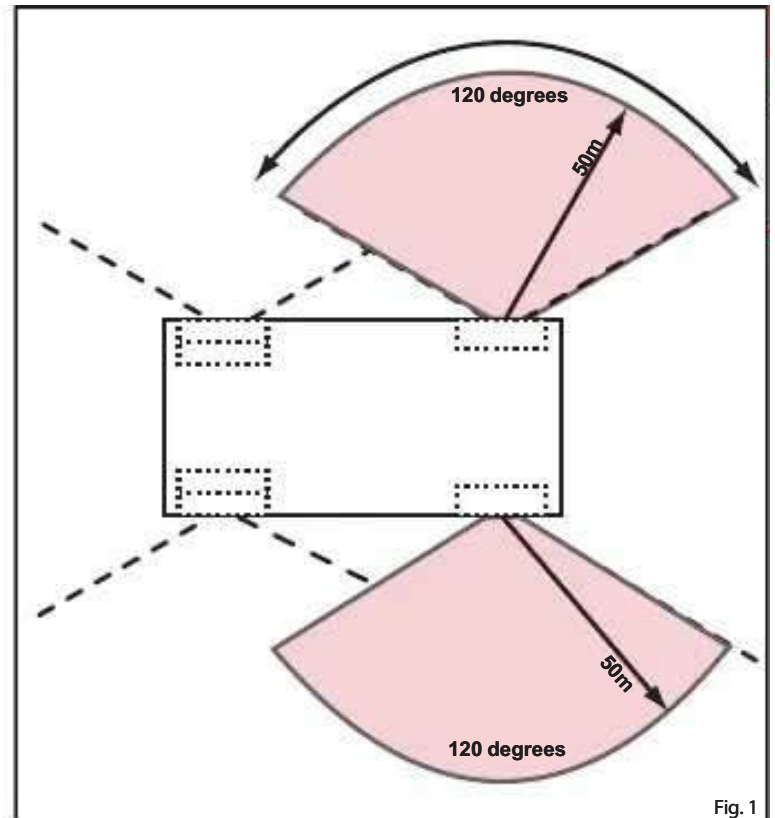

Fig. 1
Always use a restraining device during tyre deflation/inflation on multi-piece rim wheels. If a restraining device is not being used then tyres must be deflated/inflated using remote control inflation equipment and no employees shall remain in the wheel rim separation trajectory zone — refer to illustration Fig 1.
- Ensure the trajectory zone is kept clear refer to Fig. 1.